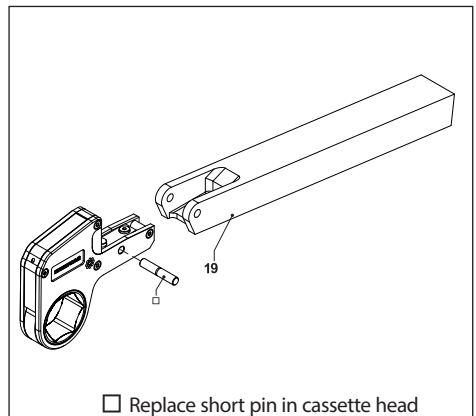

Fig. 6
3.4.1 To Attach the WTE Series Extended Reaction Arm (Fig. 6)
- Install the cassette in to the cut out in the WTE Series extended reaction arm (19) aligning the holes in the arm with the hole in the cassette.